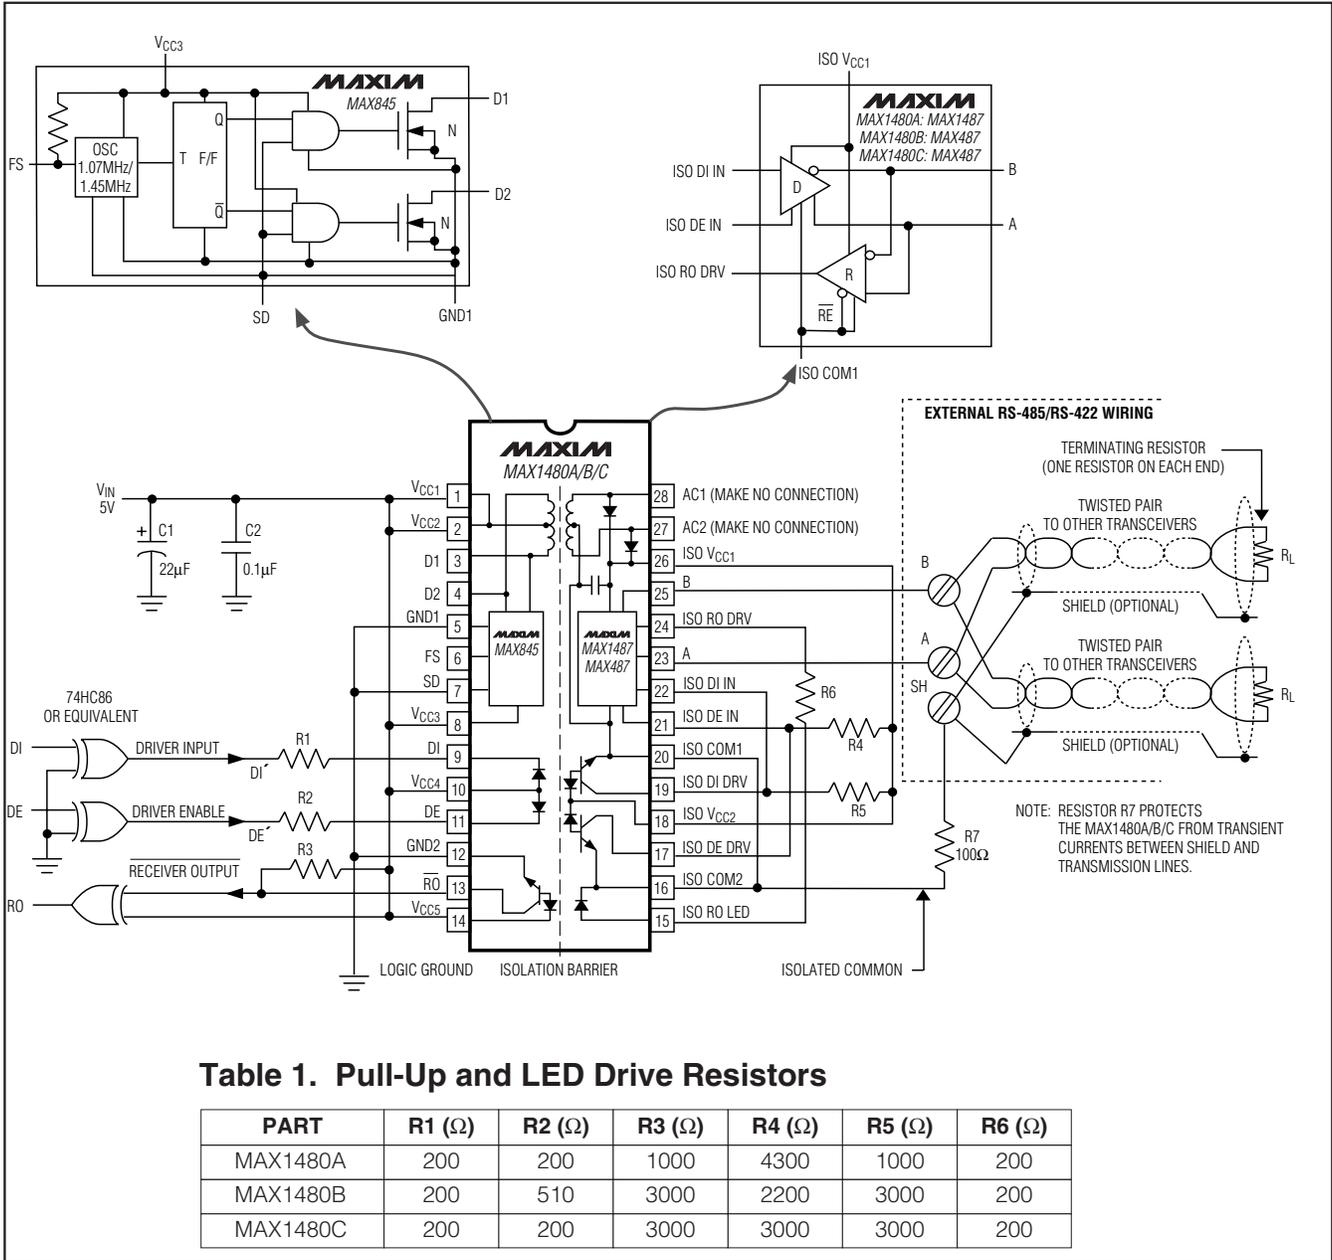
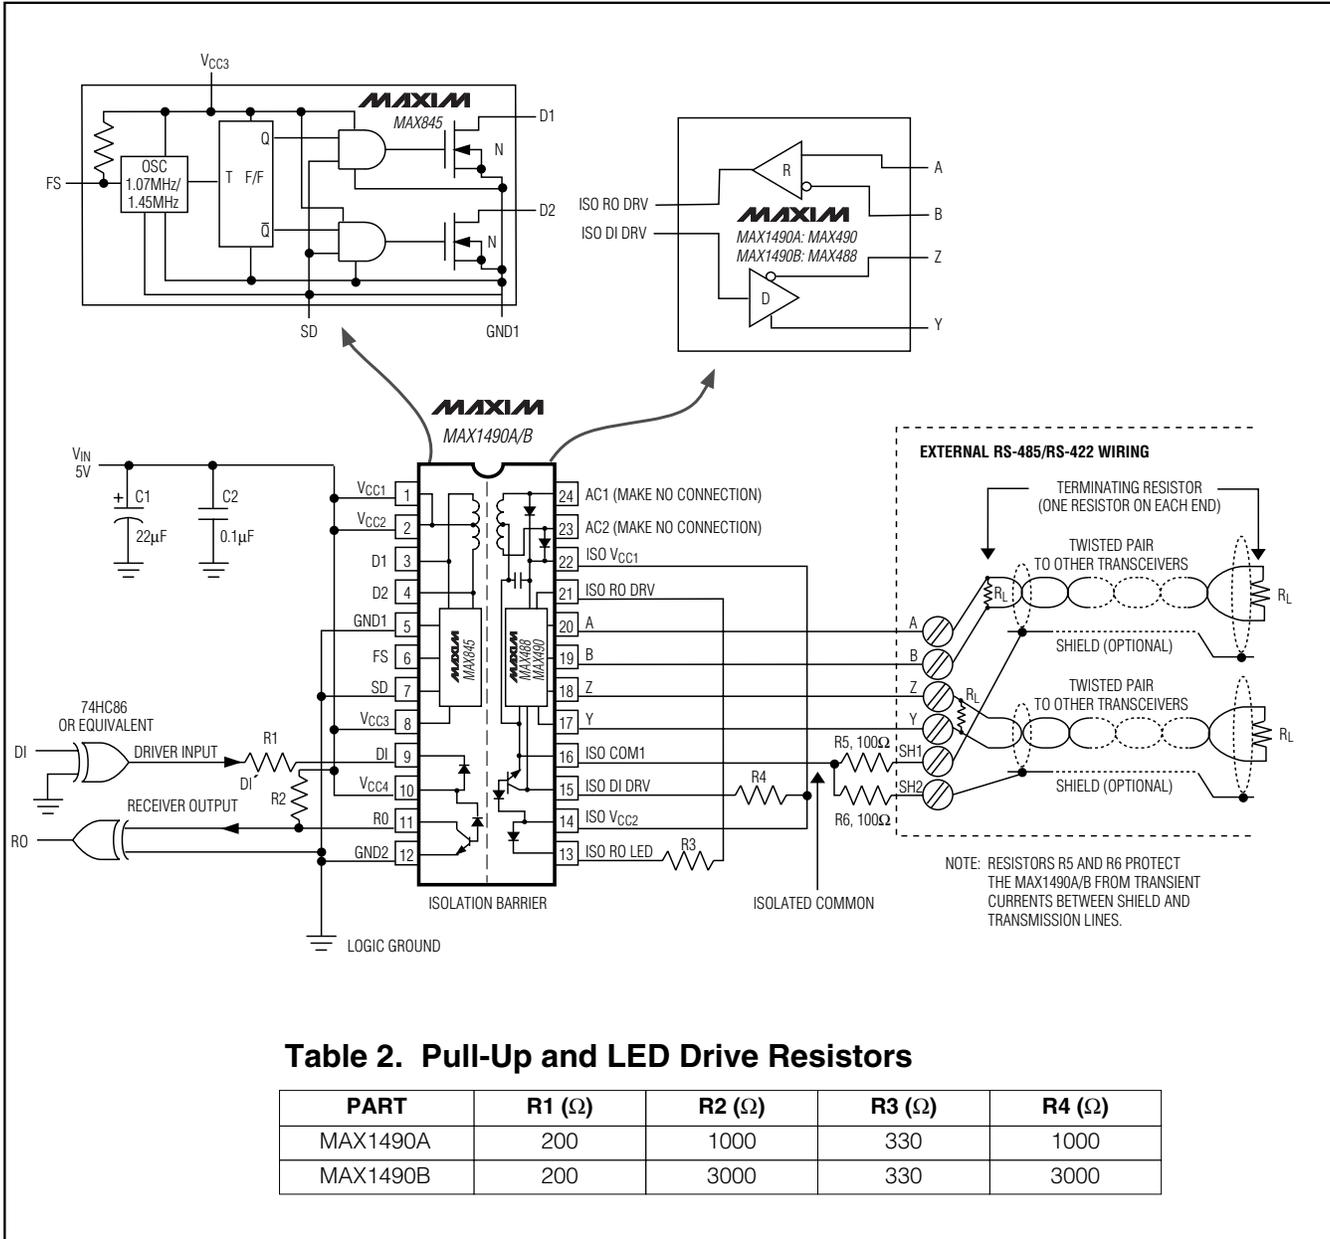

Figure 1. MAX1480A/MAX1480B/MAX1480C Detailed Block Diagram and Typical Application Circuit
Figure 2. MAX1490A/MAX1490B Detailed Block Diagram and Typical Application Circuit
**Note 2:** For DE+ and DI+ pin descriptions, see *Detailed Block Diagram and Typical Application Circuit* (Figure 1 for MAX1480A/MAX1480B/MAX1480C, Figure 2 for MAX1490A/MAX1490B).
| 9                                              | 9           | DI                                 | Driver Input. With DE ′ high (MAX1480A/B/C only), a low on DI ′ forces output A low and output B high. Similarly, a high on DI ′ forces output A high and output B low. Drives internal LED cathode through a resistor (Table 1 of Figure 1 for MAX1480A/B/C, Table 2 of Figure 2 for MAX1490A/B).                                                                                                                                                   |
| 11                                             | —           | DE                                 | Driver-Enable Input. The driver outputs, A and B, are enabled by bringing DE ′ high. The driver outputs are high impedance when DE ′ is low. If the driver outputs are enabled, the device functions as a line driver. While the driver outputs are high impedance, the device functions as a line receiver. Drives internal LED cathode through a resistor (Table 1 of Figure 1).                                                                              |
| —                                              | 11          | RO                                 | Receiver Output. If A > B by 200mV, RO will be high; if A < B by 200mV, RO will be low. Open collector; must have pullup to V CC (Table 2 of Figure 2).                                                                                                                                                                                                                                                                                                                    |
| 13                                             | —           | $\overline{RO}$                    | Receiver Output. If A > B by 200mV, $\overline{RO}$ will be low; if A < B by 200mV, $\overline{RO}$ will be high. Open collector; must have pullup to V CC- (Table 1 of Figure 1).                                                                                                                                                                                                                                                                                         |
| 15                                             | 13          | ISO RO LED                         | Isolated Receiver Output LED. Internal LED anode in MAX1480A/B/C and LED cathode in MAX1490A/B. Connect to ISO RO DRV through a resistor (Table 1 of Figure 1 for MAX1480A/B/C; Table 2 of Figure 2 for MAX1490A/B).                                                                                                                                                                                                                                                                  |
| 17                                             | —           | ISO DE DRV                         | Isolated Driver-Enable Drive. The driver outputs, A and B, are enabled by bringing DE ′ high. The driver outputs are high impedance when DE ′ is low. If the driver outputs are enabled, the device functions as a line driver. While the driver outputs are high impedance, the device functions as a line receiver. Open-collector output; must have pullup to ISO V CC- and be connected to ISO DE IN for normal operation (Table 1 of Figure 1). |
| 19                                             | 15          | ISO DI DRV                         | Isolated Driver-Input Drive. With DE ′ high (MAX1480A/B/C only), a low on DI ′ forces output A low and output B high. Similarly, a high on DI ′ forces output A high and output B low. Connect to ISO DI IN (on the MAX1480A/B/C only) for normal operation. Open-collector output; connect a pullup resistor to ISO V CC- (Table 1 of Figure 1 for MAX1480A/B/C; Table 2 of Figure 2 for MAX1490A/B).                                    |
| 20                                             | 16          | ISO COM1                           | Isolated Common. For MAX1480A/B/C, connect to ISO COM2 (pin 16) (Figures 1 and 2).                                                                                                                                                                                                                                                                                                                                                                                                    |
| 24                                                         | 21         | ISO RO DRV | Isolated Receiver-Output Drive. Connect to ISO RO LED through a resistor (Table 1 of Figure 1 for MAX1480A/B/C, Table 2 of Figure 2 for MAX1490A/B). |
**Note:** For DE+ and DI+ pin descriptions, see *Detailed Block Diagram and Typical Application Circuit* (Figure 1 for MAX1480A/B/C, Figure 2 for MAX1490A/B).
The MAX1480A/MAX1480B/MAX1480C/MAX1490A/MAX1490B are complete, electrically isolated, RS-485/RS-422 data-communications interface solutions. Transceivers, optocouplers, a power driver, and a transformer in one standard 28-pin DIP package (24-pin for the MAX1490A/B) provide a complete interface. Signals and power are internally transported across the isolation barrier (Figures 1, 2). Power is transferred from the logic side (nonisolated side) to the isolated side of the barrier through a center-tapped transformer. Signals cross the barrier through high-speed optocouplers. A single +5V supply on the logic side powers both sides of the interface. The MAX1480A/B/C offer half-duplex communications while the MAX1490A/B feature full-duplex communication. The functional input/output relationships are shown in Tables 3–6.
\* For DE' and DI' pin descriptions, see *Detailed Block Diagram and Typical Application Circuit* (Figure 1 for MAX1480A/B/C, Figure 2 for MAX1490A/B).
The MAX1480A/MAX1480B/MAX1480C/MAX1490A/MAX1490B are specified and characterized using the resistor values shown in Table 1 of Figure 1 and Table 2 of Figure 2. Altering the recommended values can degrade performance.
The isolated common may be completely floating with respect to the logic ground and the effective network ground. The receiver input resistors will cause the isolated common voltage to go to the mean voltage of the receiver inputs. If using shielded cable, connect the isolated common to the shield through a 100Ω resistor. In the case of the MAX1490, each shield should have its own 100Ω resistor (Figures 1, 2, 13, and 14).